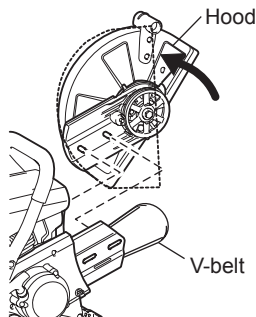

Fig. 2
- (3) Rotate the hood to the broken line position. Remove V-belt and then remove cutting attachment from the Power Cutter. Reposition the grip. (Fig. 2)